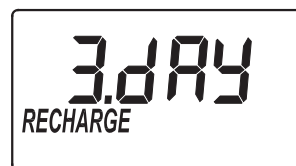

FIG. 16
1. If you completed the previous step, the word "RECHARGE" should show in the display (See Figure 16). Otherwise, press the SELECT button several times until it does.